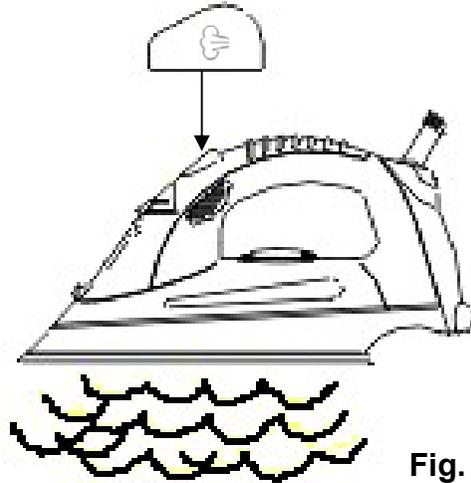

Fig. 6
- By pushing the “Burst-of-Steam” button (6) a powerful shot of steam is emitted from the soleplate. (Fig. 6)